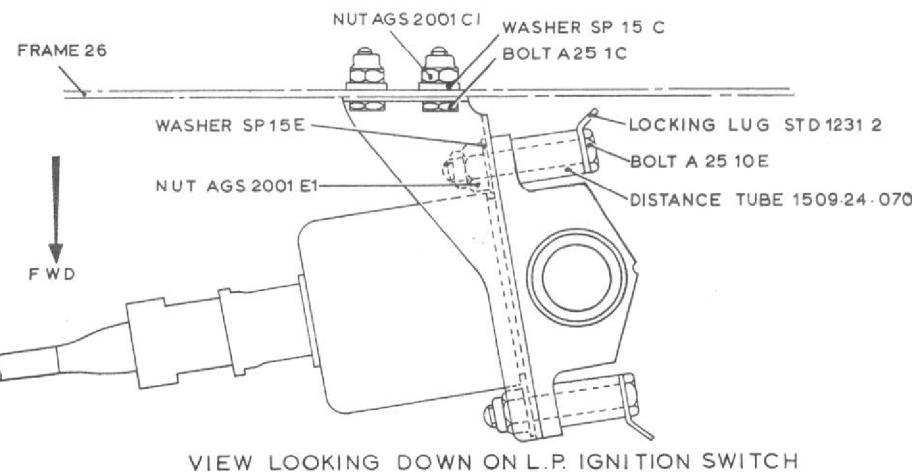

Fig.5 L.p. ignition switch installation
(2) Remove the locking wires and disconnect the fuel pipes from the switch. Slacken other ends of pipes and move clear.
(3) Remove two bolts, etc. securing the switch to the mounting bracket.
(4) Apply an air pressure of 70 lbf/in², then release the pressure.
(5) Repeat (4) four times.
(6) Apply a gradually increasing air pressure and check that the circuit is broken between pins A and B and made between pins A and C, at between 40 and 45 lbf/in².
(7) Decrease the pressure to 20 lbf/in². check that continuity is restored between pins A and B, then release the pressure and remove the test equipment.
(8) Fit the switch to the mounting bracket as shown on fig.5.
(9) Re-connect fuel pipes, tighten and wire-lock connections with stainless steel locking wire.
(10) Re-connect electrical cable.
(11) Prime the system as detailed in para. 9.